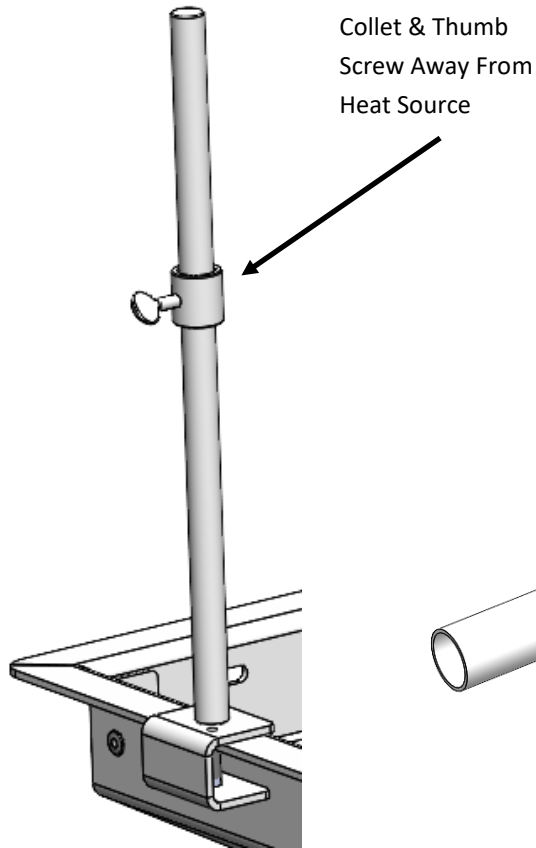

Fig. 5.
Step 4 : Next, slide the collet on to the upright bar and secure in place with the M5 thumb screw. It is recommended to position the thumb screw opposite from the source of heat from the fire pit and thus reducing the temperature to the thumb screw. **DO NOT** over tighten the thumb screw as damage to the upright bar may be present. See Fig. 5.